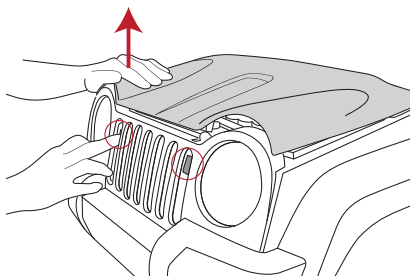

Figure 16
- To OPEN the hood, locate one of the black buttons in the grill and press with one hand while lifting the hood up with the other. See Figure 16.